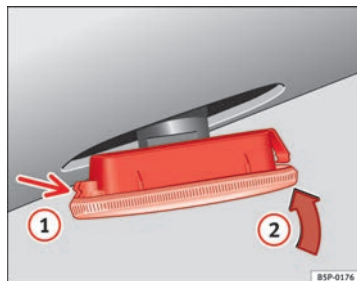

Fig. 189 Side turn signal
- First place the turn signal in the opening in the bodywork, fixing the tabs ⇒ Fig. 189, arrow ①.
- Insert the bulb as shown by the arrow ② ⇒ Fig. 189. ■